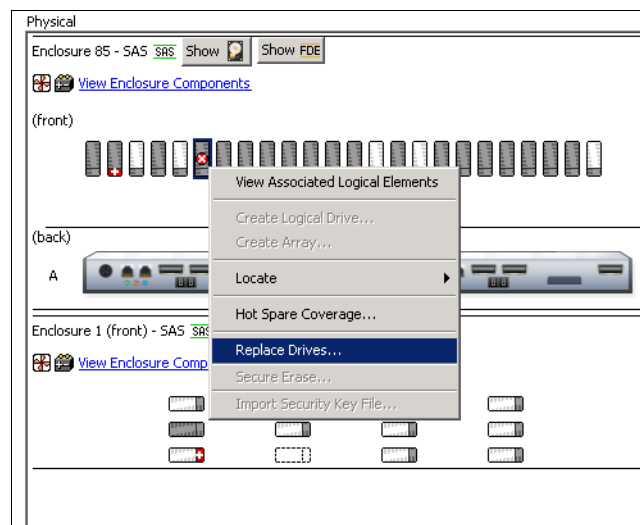

Figure 10-12 Replace Drive
1. Select the failed disk drive or missing disk drive icon in the Physical pane, right-click it, and select **Replace Drives** in the menu that appears (Figure 10-12).